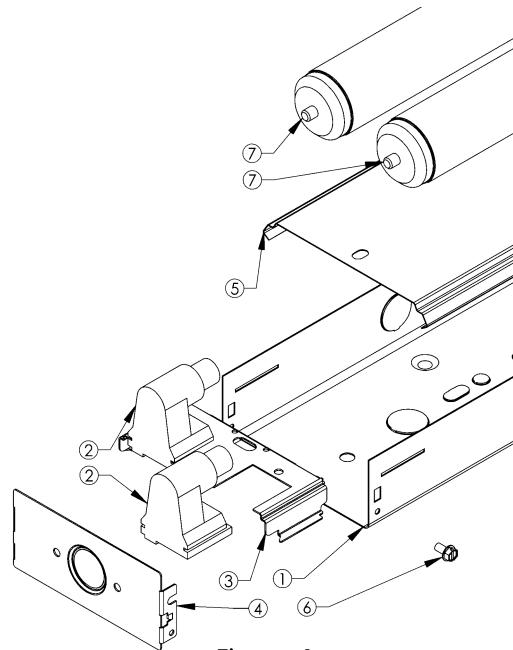

Figure 1
2. Fixture assembly. (Figure 1)
- Stretch pre-wired socket(s) (2) out past each end of channel (1).
- Snap socket bar (3) into slotted openings in channel (1) (Both ends).
- Slide socket(s) (2) into socket bar (3) using upper most grooves of socket(s) (2) (Both ends).
- Slide end cap (4) into position and secure with one 8/32 screws (6) (supplied) (Both ends).
- To locate, hold channel (1) up to ceiling with power supply knockout located over entryway for power supply wires. Mark the locations of the mounting holes on the ceiling. Take the channel (1) down and punch a small hole into the ceiling at each location using a nail or an awl to see if there is a wood joist. If there is a joist use a suitable wood screw (not included) to mount the channel (1). Where there is no joist to screw into use a toggle bolt (not included) of suitable length to mount channel (1) securely to the ceiling. **Proceed to step B before final mounting.**
- Feed the black and white supply wires, and the green ground wire into the fixture (1) through the open knockout hole. At this time you can finish mounting the channel (1) to the ceiling.